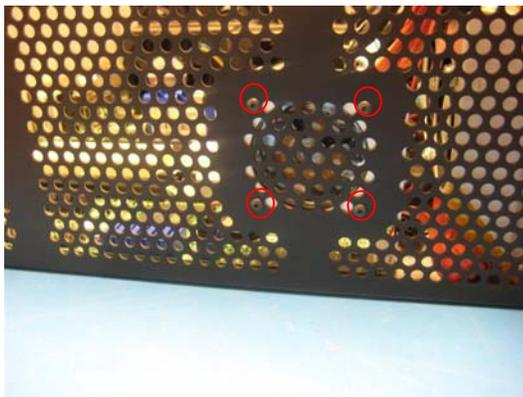

Figure 3-90
- 6) Remove the screws holding the speaker assembly in place and disconnect the power cable (Figures 3-90 and 3-91).